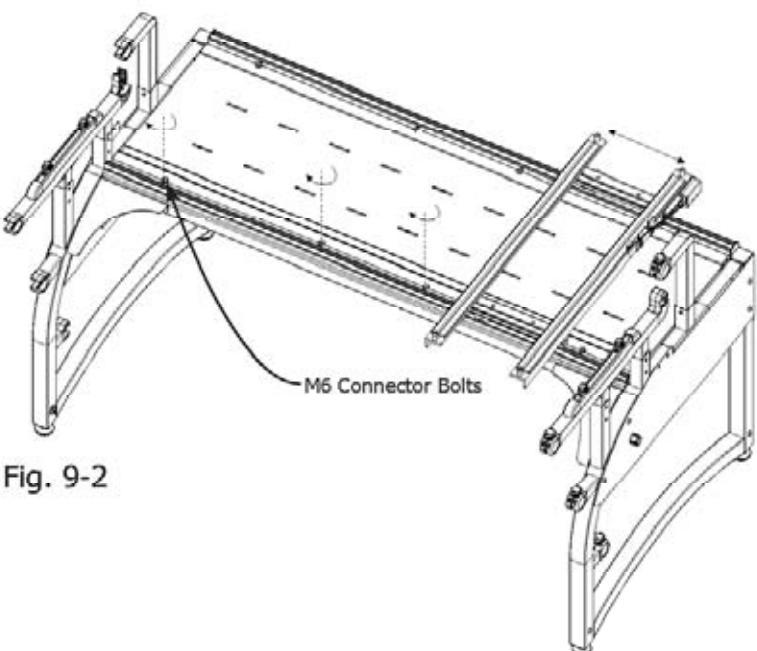

Fig. 9-2
**9-3:** Press down on the Bottom Carriage Assembly and move the carriage from left to right, fastening the Front Track M6 Connector Bolts firmly. Continue this step for the remainder of the Connector Bolts along the frame. (Fig. 9-2)